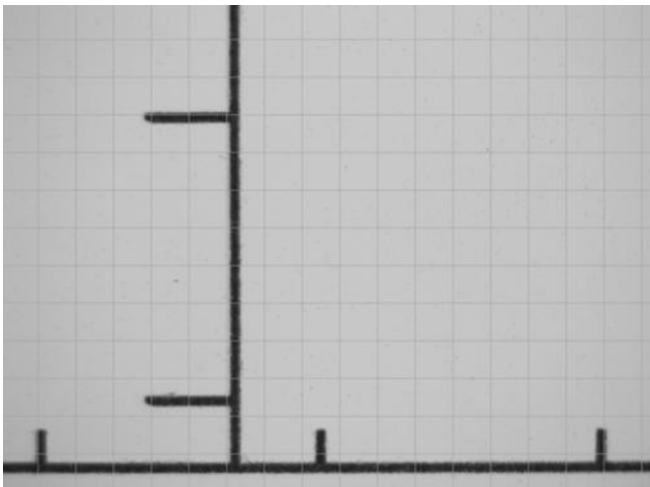

Figure 25. Template ruler well aligned
- When the ruler remains perfectly straight along the entire x-axis, just as in Figure 25, then these steps can be repeated to align the y-axis.